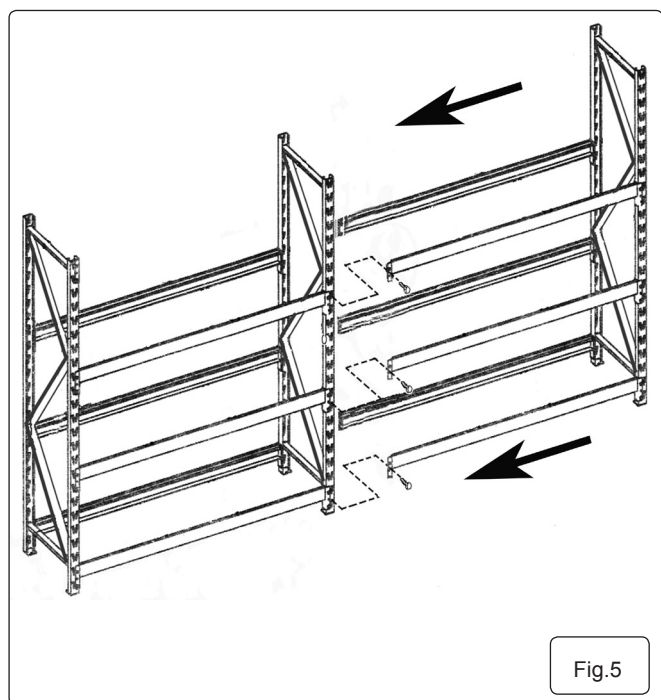

Fig.5
1.3 Fitting the cross beams. Refer to Fig.5.